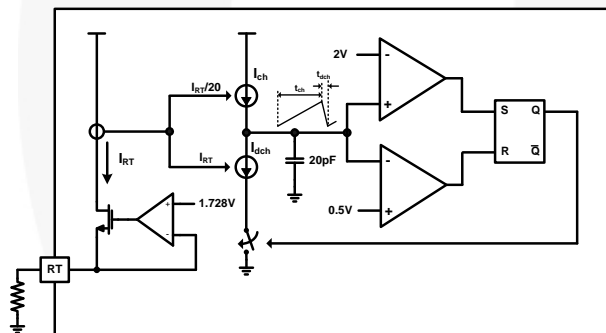

Figure 24. Main Oscillator Circuit
**Internal Main Oscillator:** The internal timing capacitor (CT), 20pF, is charged by the reference current source, which is formed by the timing resistor (RT). The RT voltage is regulated at 1.728V. The sawtooth waveform charges up to 2V. Once CT voltage is reached, the CT begins discharging down to 0.5V. Next, the CT starts charging again and a new switching cycle begins, as shown in Figure 24. The main frequency is programmed by adjusting the  $R_T$  value. The main frequency is calculated as: